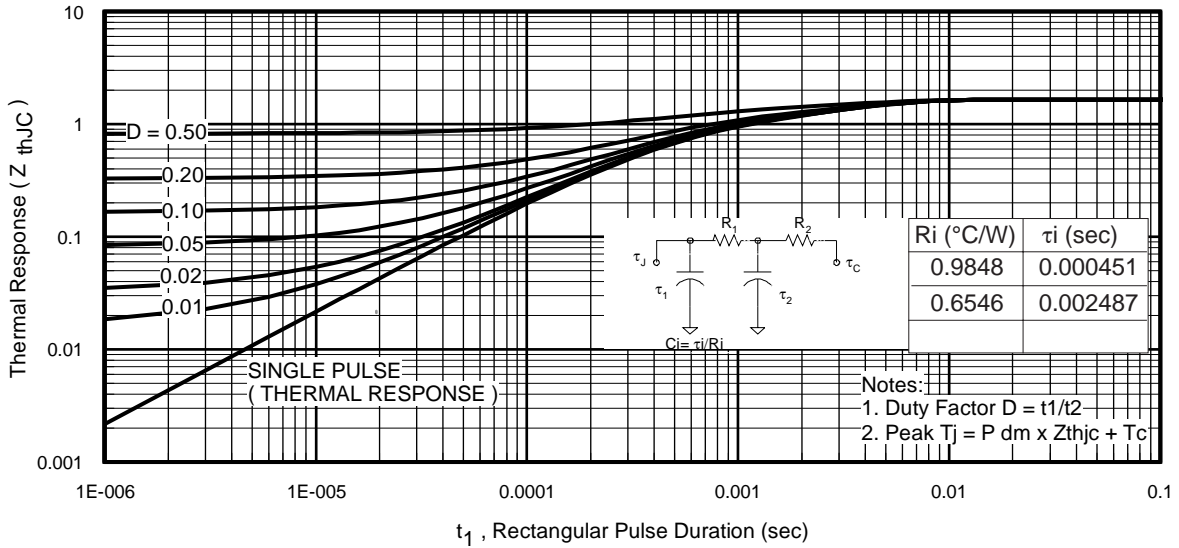

Fig 11. Maximum Effective Transient Thermal Impedance, Junction-to-Case
- ① Repetitive rating; pulse width limited by max. junction temperature. (See fig. 11).
- ② Limited by T_{Jmax} , starting $T_J = 25^\circ\text{C}$, $L = 0.11mH$, $R_G = 25\Omega$, $I_{AS} = 37A$, $V_{GS} = 10V$. Part not recommended for use above this value.
- ③ $I_{SD} \leq 37A$, $di/dt \leq 920A/\mu s$, $V_{DD} \leq V_{(BR)DSS}$, $T_J \leq 175^\circ\text{C}$.
- ④ Pulse width $\leq 1.0ms$; duty cycle $\leq 2\%$.
- ⑤ $C_{oss\ eff.}$ is a fixed capacitance that gives the same charging time as C_{oss} while V_{DS} is rising from 0 to 80% V_{DSS} .
$Z_{thJC}(D, t_{av})$ = Transient thermal resistance, see figure 11)